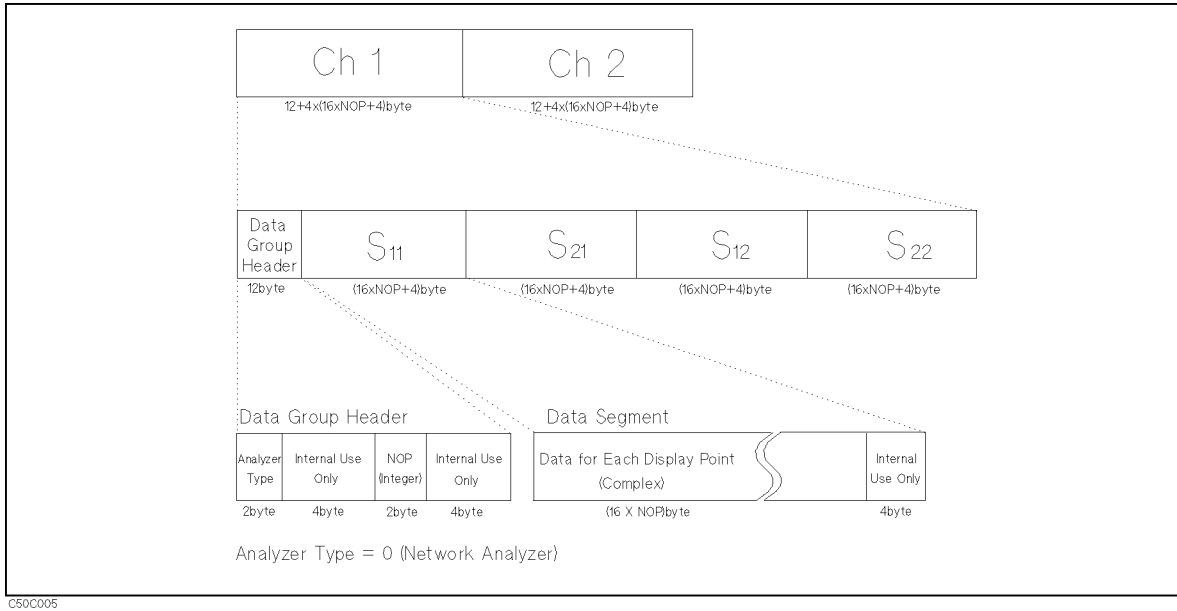

Figure A-42. RAW Data Group Structure for the Network Analyzer
- RAW DATA of the network analyzer consists of a header and four data segments per channel as shown in Figure A-42. They will follow the file header in this order: